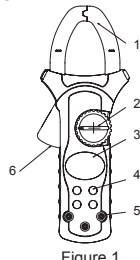

Figure 1
**The Meter Structure (See Figure 1)**